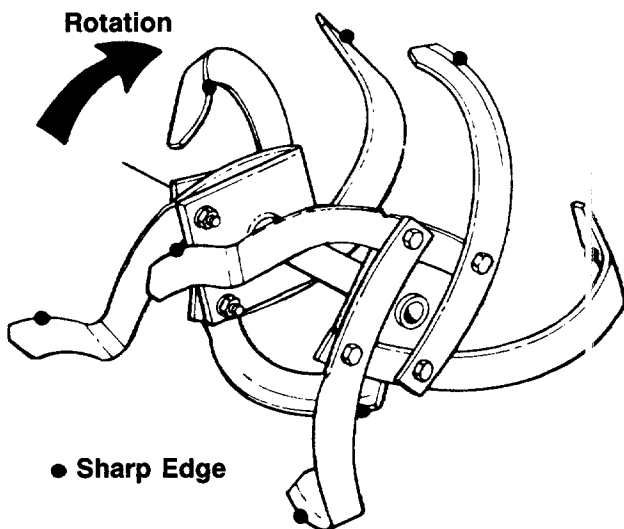

FIGURE 13.
1. Before operating tiller for the first time or if tines have been removed and reassembled for any reason, check to be certain the tines are assembled correctly. **The sharp edge of the tines must enter the soil first as shown in figure 13.** (Figure 13 illustrates the left hand tines, viewed from the left hand side of the tiller. Right hand tines rotate in the same direction as the left hand tines.)